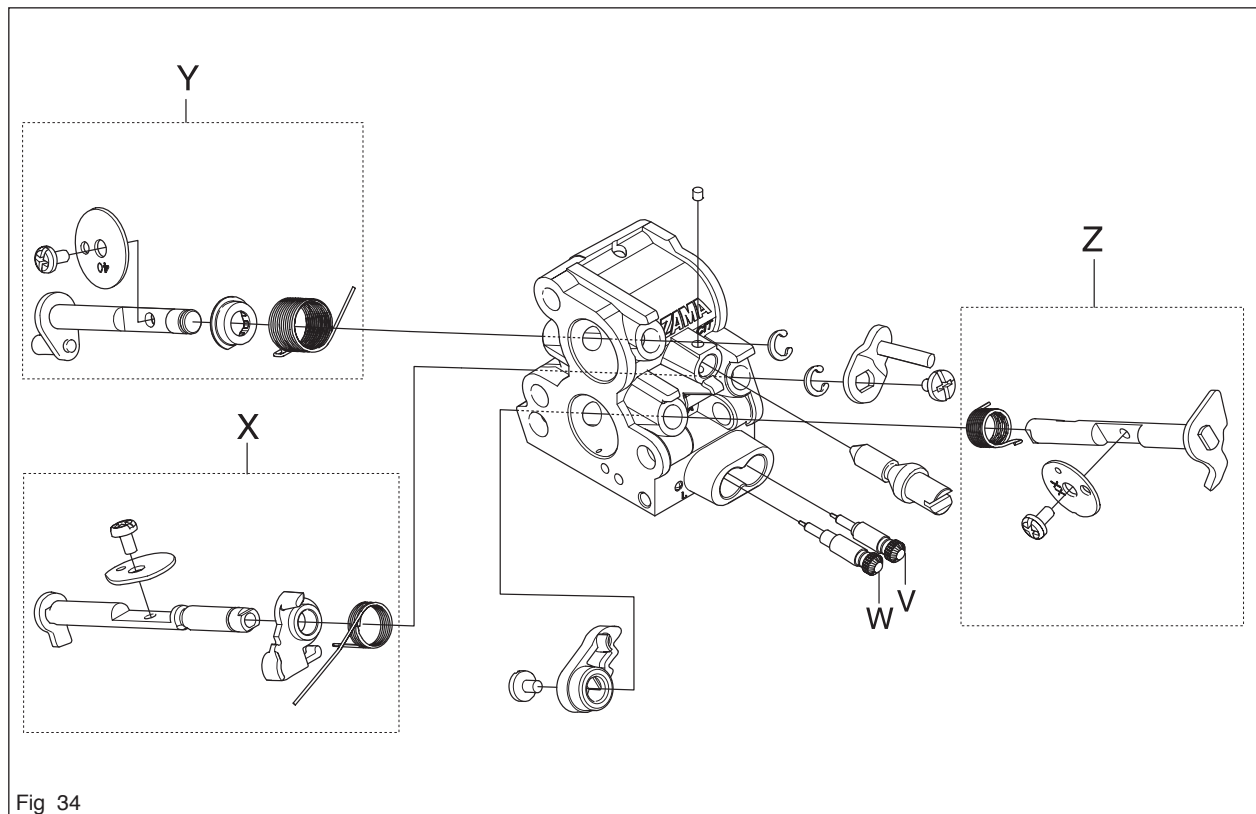

Fig 34
6. Disassemble the pump cover (G) over the measuring chamber cover (R) and carefully remove the control diaphragm (H) with gasket (J).
7. Unscrew the screw (K) and remove the needle valve (L) with lever (M), shaft (N) and spring (P).
8. Unscrew the screw (Q) above the pump unit and carefully remove the gasket (S) and diaphragm (T).
9. Use a needle or similar device and carefully pull up the fuel screen (U).
10. Unscrew the high (V) and low jet screws (W) (see figure 34).
11. If necessary, dismantle the throttle valve (X), choke valve (Z) and air shutter (Y) and remove the shafts with levers and springs (see figure 34).
5. That the tips of the high (V) and low jet screws (W) are not damaged (see figure 34).